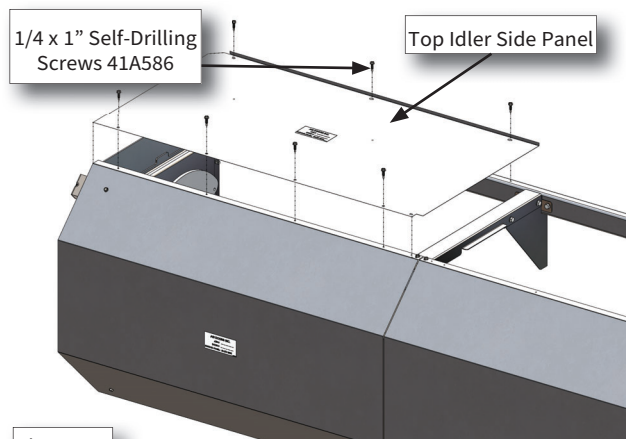

Figure 59
2. Top panels sit on top of front panels. Position top idler side panel. Keep panel square and aligned with front panel. Align outside edge of top panel with front idler side panel. Front (4) clearance holes in top panel should align with starter holes in front panel underneath. Attach with (4) 41A586 self-drilling screws through these holes (Figure 59).
3. Attach top idler side panel to rear spreader bar of header with (3) 41A586 self-drilling screws through the (3) slotted holes at the rear of top idler panel.